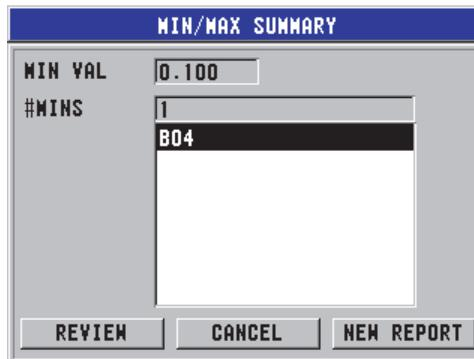

Figure 6-45 The MIN/MAX SUMMARY report result screen
- The **MIN REVIEW** report result screen opens with the minimum thickness ID highlighted (see Figure 6-45 on page 121).